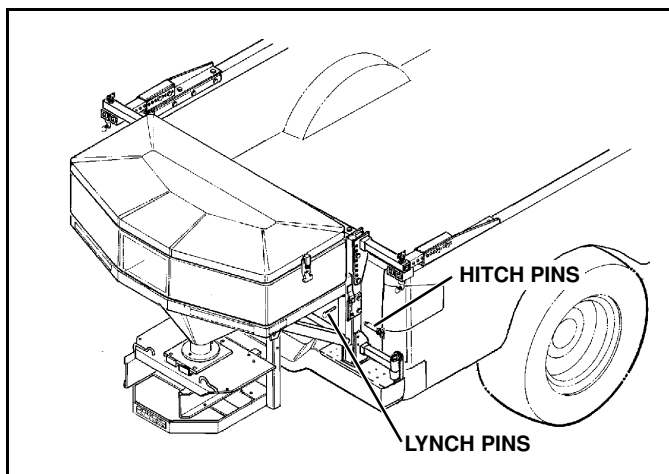

Figure 1-15
3. Install Hitch Pins through Mounting Brackets and Hopper Frame. Install Lynch Pins into Hitch Pins to secure them in place. (See Figure 1-15).